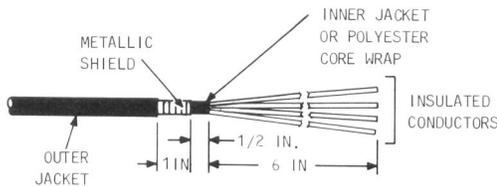

Fig. 20—Prepared Service Wire—B Cable Closure
7.02 Prepare the service wire for B cable closure as illustrated in Fig. 20. A rehabilitation kit is available for use with the B cable closure (see paragraph 8.01).